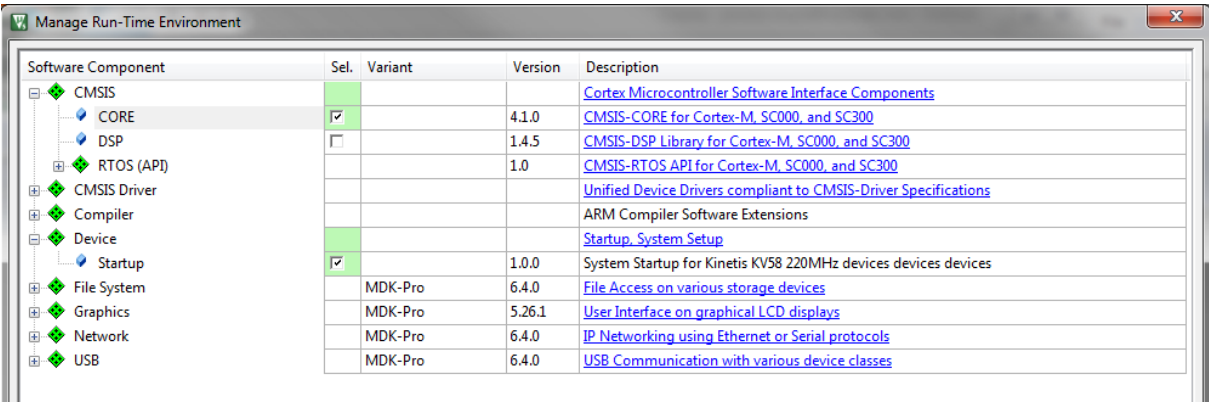

Figure 1-30. Manage Run-Time Environment dialog
- 8. In the next dialog, expand the Device node, and tick the box next to the Startup node. See Figure 1-30.